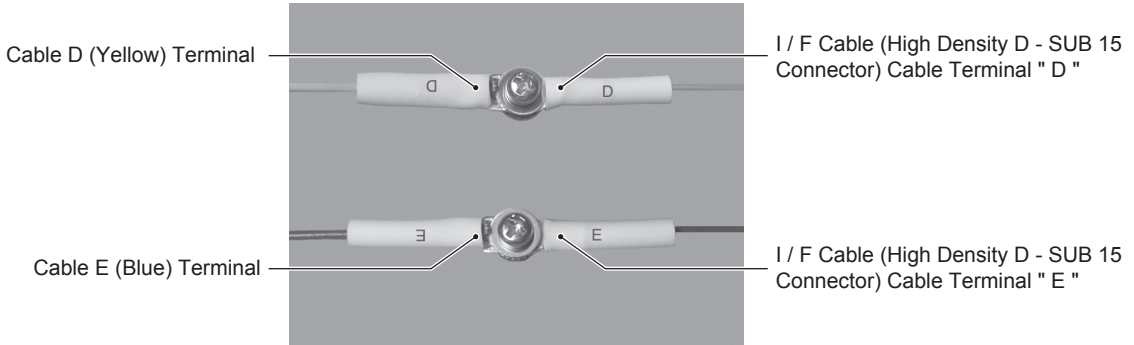

Fig. 16
- (1) As shown in Fig. 16, connect the terminal of Cable D (Yellow ) and the terminal " D " of I / F Cable (High Density D - SUB 15 connector) using the provided Screw and Nut. Firmly affix the Screw at the O-type terminal side of Cable D (Yellow) (Fig. 16).
- (2) As shown in Fig. 16, connect the terminal of Cable E (Blue) and the terminal " E " of I / F Cable (High Density D - SUB 15 Connector) using the provided Screw and Nut. Firmly affix the Screw at the O-type terminal side of Cable E (Blue) (Fig. 16).